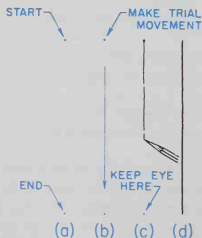

Fig. 2-3. Steps in sketching vertical lines.
1. Locate the starting and ending points, Fig. 2-3 (a).
2. Without marking your paper, make trial arm movements between top and bottom points to position arm (it will help to line the points up by sight), Fig. 2-3 (b). Use a pulling arm and finger movement in sketching.
3. Sketch short, light lines at first, Fig. 2-3 (c), and keep your eye on the point at which the line is to end.
4. Darken the line to form one continuous line of uniform weight, Fig. 2-3 (d). To do this, let your eye lead your pencil along the light construction line.